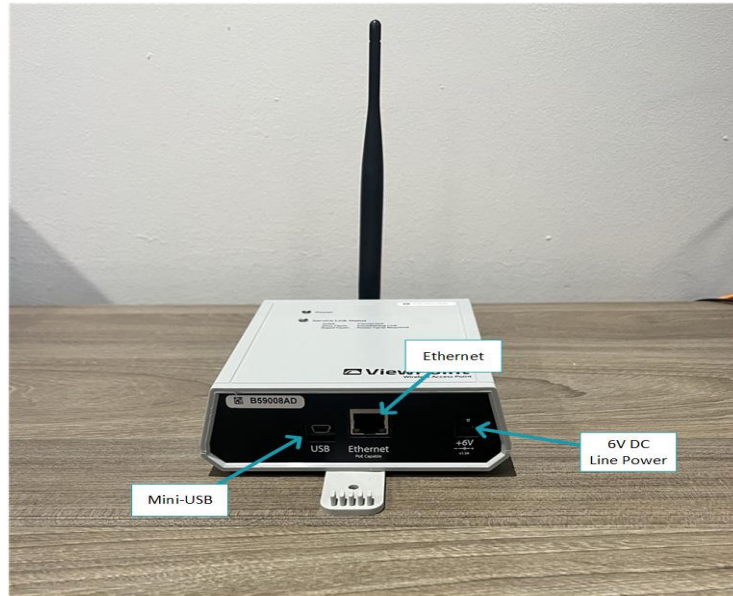

Fig 3.1-1 – Access Point 1.0 Equipment Details
- Fig 3.1-1 – Access Point 1.0